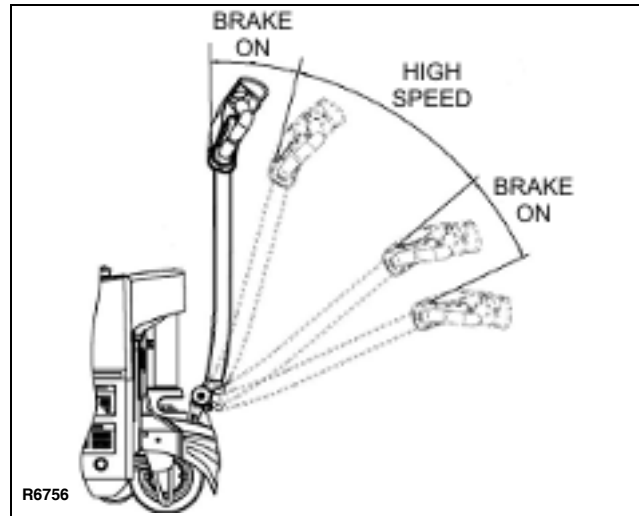

Figure 2-4 Brake Actuation
The brake is fully applied by lowering or raising the steering arm. (See Figure 2-4) All traction control power is shut off when the brake is engaged. When the steering arm is in the upright position, the brake acts as a parking brake. Deadman braking occurs when the handle is released and spring action raises steering arm to the upright position.
2. Lower the steering arm to a comfortable position above horizontal to disengage the brake and to energize the electrical circuits. If the truck is not moved, the electrical circuits will time out and will deenergize. See Figure 2-4.
4. To slow down or stop, release the speed control and lower or raise the steering arm to the horizontal or vertical position. See Figure 2-4. In those positions, the brake engages, slowing or stopping the truck.